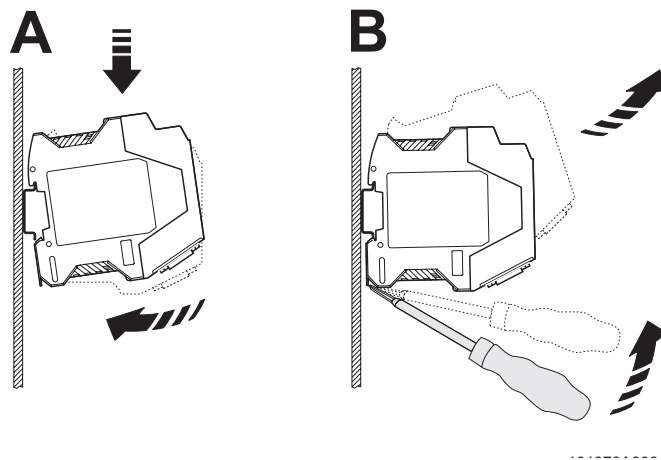

Figure 2-1 Mounting and removal (single device)
- Place the device onto a grounded 35 mm DIN rail from above so that the upper housing keyway hooks onto the top edge of the DIN rail (see Figure 2-1 A).
- Use a suitable screwdriver to release the locking mechanism on the snap-on foot of the device (see Figure 2-1 B).